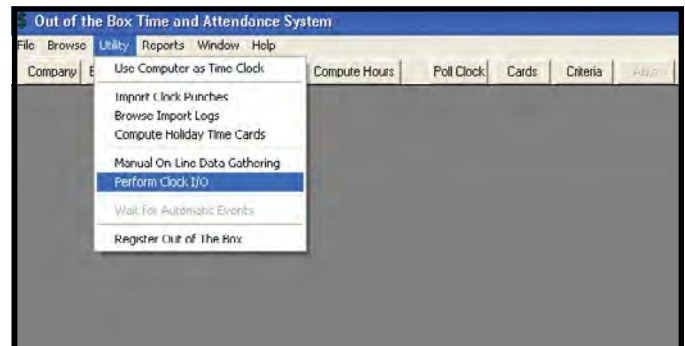

Figure 81. Out-of-the-Box™, Perform Clock I/O
- XII. The communication settings must then be checked via the “Perform Clock I/O” command. Begin by clicking “Utility” > “Perform Clock I/O” (see Figure 81).